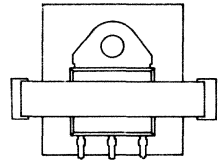

Fig. 2c Position of the device.
3. Push down the clip over the device until the long end of the clip snaps into the wide slot in the heatsink. The clip should bear on the plastic body, not on the tab (see Fig. 2c). There should be minimum 3 mm distance between the device and the edge of the insulator for adequate creepage.